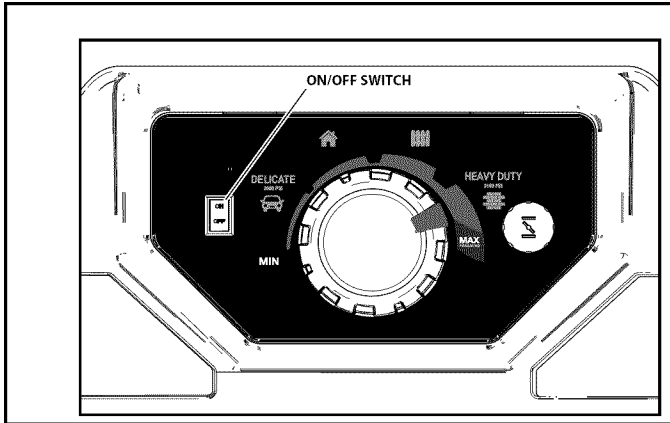

Figure 5-7. ON/OFF Switch
2. Turn the engine ON/OFF switch to the “OFF” position (Figure 5-7).